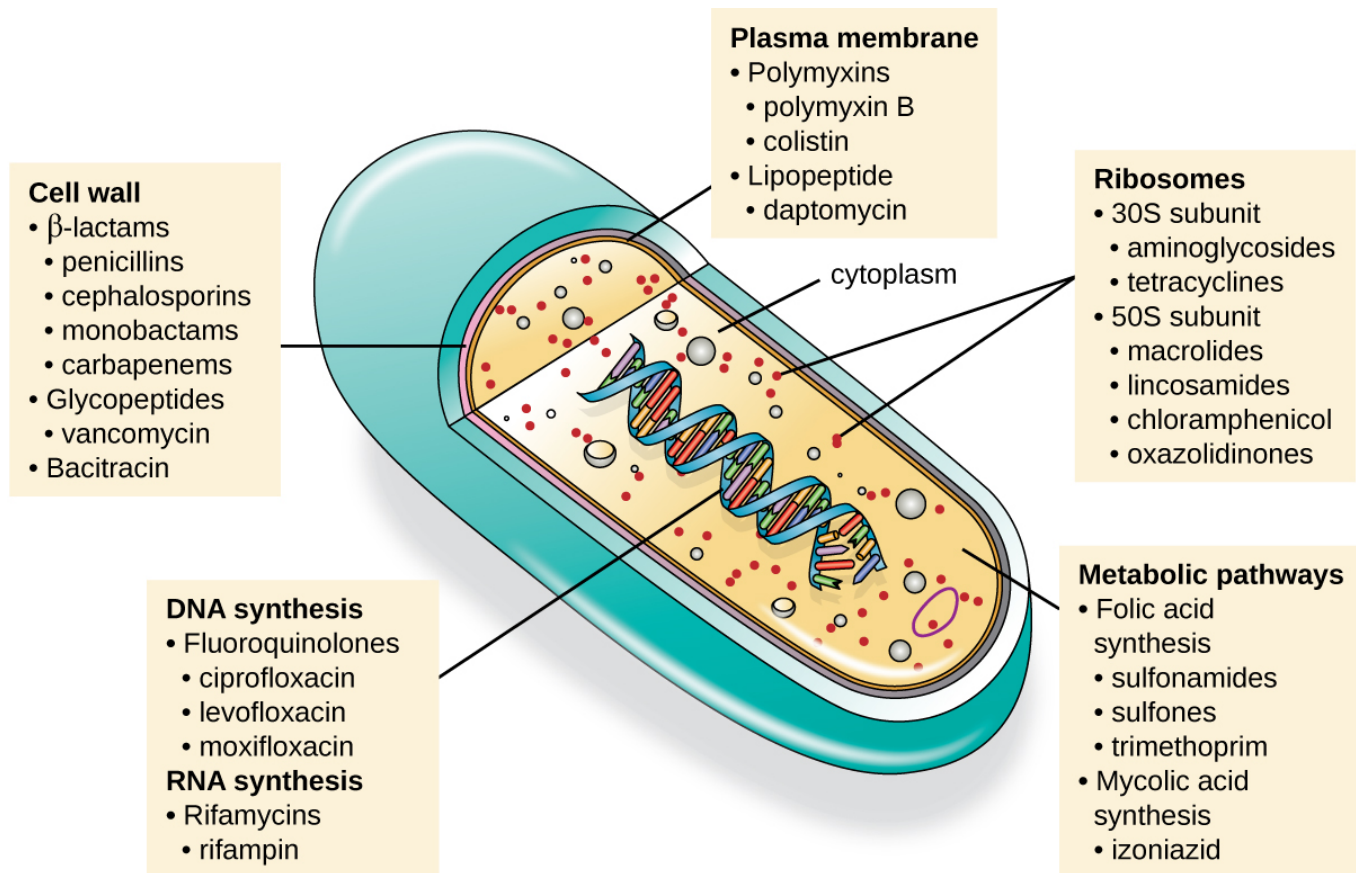

Figure 2. Schematic of antibiotic cellular targets (modes of action) and major classes of antibiotics (and examples of drugs). From OpenStax Microbiology
Figure 2. Three microbes with distinctive colony morphologies, typical of their genus. (A) *Serratia marcescens* is red colored and can form colonies with white edges. The colonies are irregular in shape with entire edges. (B) *Acinetobacter baylyi* forms translucent white or clear colonies. The bacteria is gooey and stringy when lifted up off the plate. (C) *Micrococcus luteus* forms convex circular yellow colonies with an entire edges. These colonies are often small sized.